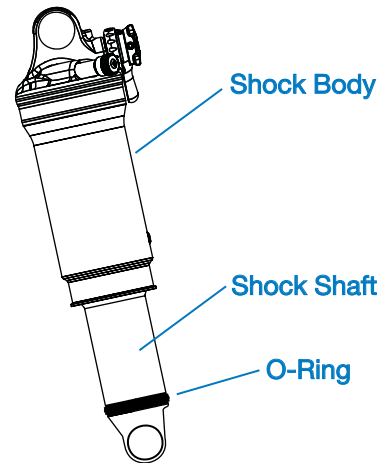

Figure 2 (Air Shock)
3. Position the bicycle next to a wall so that they can sit on the bike with both feet on the pedals while steadying themselves with one arm. Have them gently sit on the saddle without bouncing. Get them to dismount gently without bouncing and take note of how far the O-ring has moved down the shaft. Measure the distance the O-ring has moved (Figure 2).